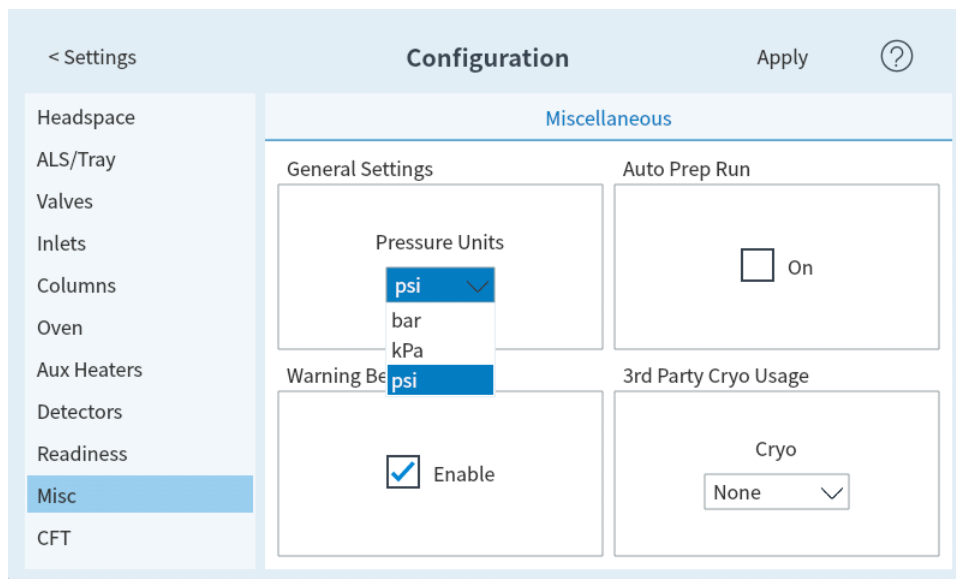

Figure 70. Miscellaneous settings page
1. Select **Settings > Configuration > Misc**. See Figure 70.